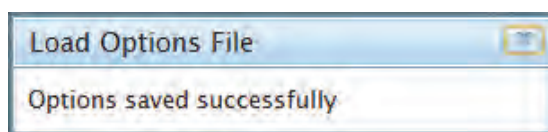

Figure 5-14. Options file Success Message
3. Wait until the **Load Options File** prompt message indicates that the options file was successfully saved. See Figure 5-14.